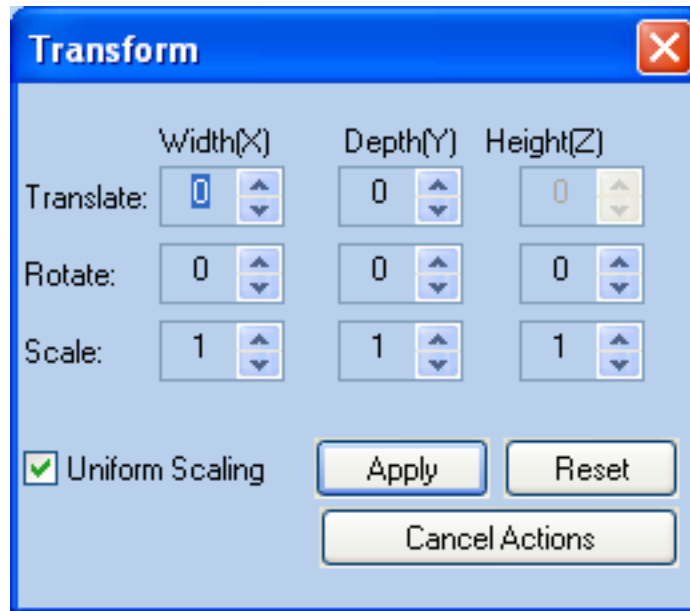

Figure 5-28 *Transform* dialog box
- Display the *Transform* dialog box (see Figure 5-28 on page 5-30).